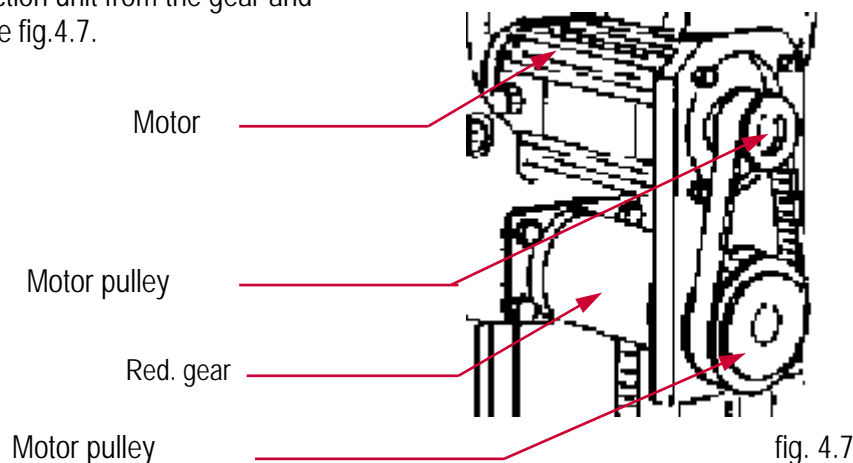

fig. 4.7
- Remove the motor pulley fig.4.7.
- Remove the driven rotation pulley fig.4.7.
- Separate the reduction unit from the gear and from the fixing plate fig.4.7.